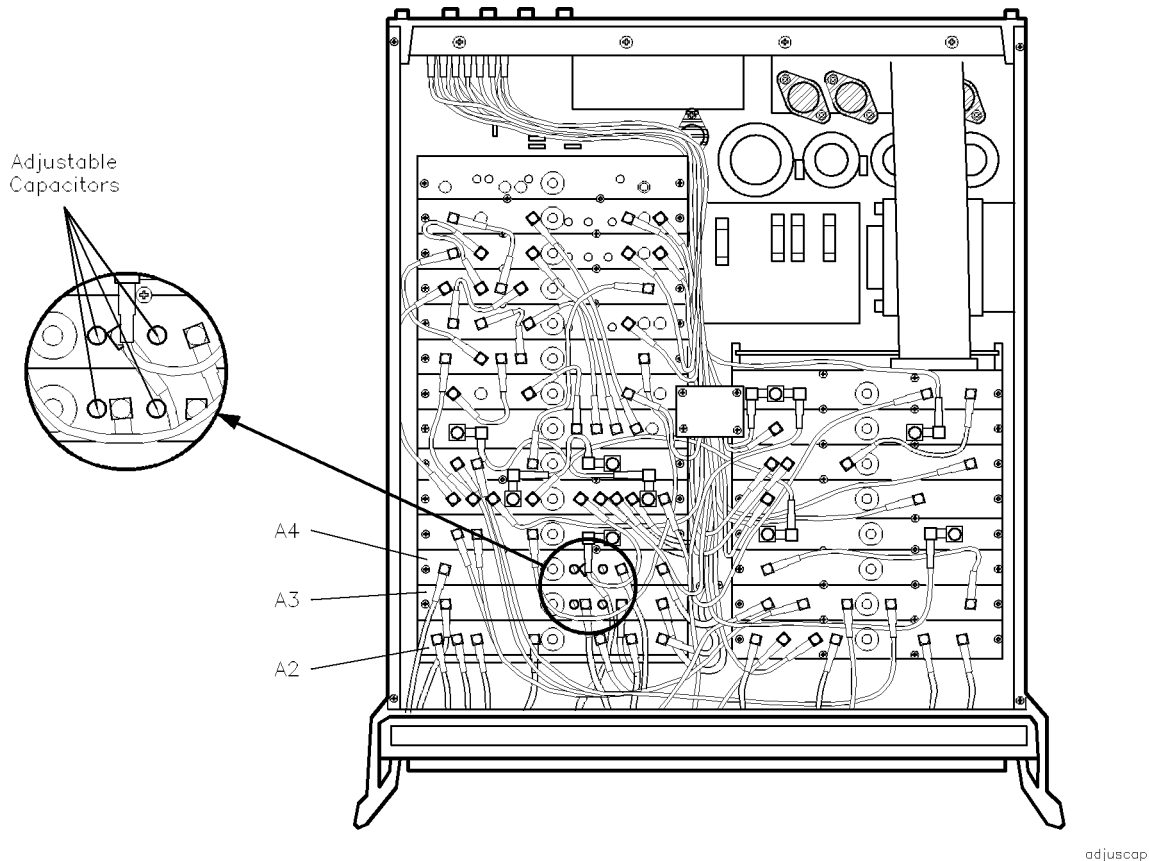
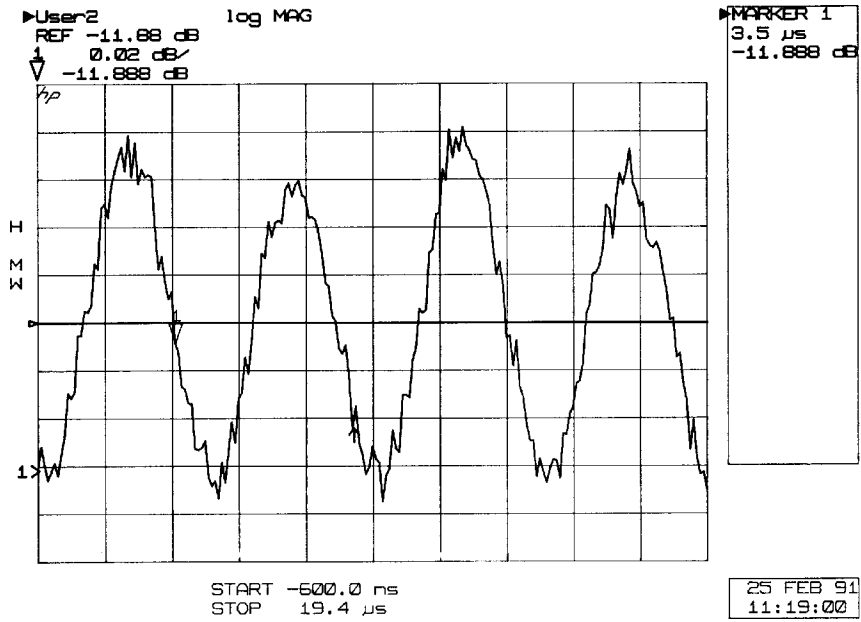
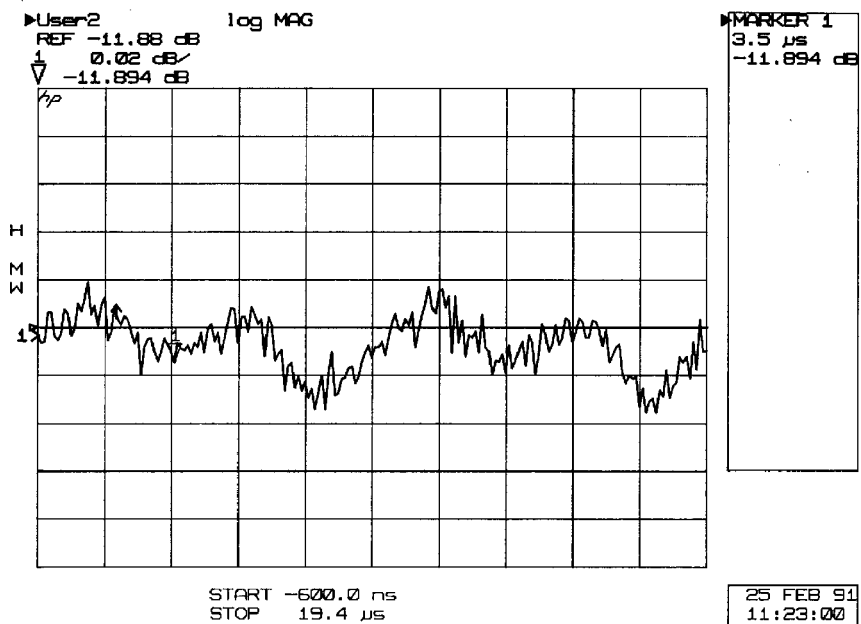

Figure 5-2. A2 IF MUX Board Connections
Figure 5-3. Misadjusted Pulse Detector Display Trace
Figure 5-4. Adjusted Pulse Detector Display Trace
1. For racked systems, remove the rack mounting screws from the front of the HP 85102. Slide the instrument forward slightly to give you access to the A2, A3, and A4 boards (refer to Figure 5-2).
7. Adjust the two variable ceramic capacitors, located on the A3 Pulse Detector board near J2 and J3, for minimum ripple (refer to Figure 5-2). Press **RESET IF CORRECTION** at the end of each sweep while adjusting these capacitors. The ripple should be <0.06 dB peak-to-peak after **RESET IF CORRECTION**. See Figure 5-3 and Figure 5-4 for typical network analyzer display traces.
8. Move the test cable to J5 on the A2 IF MUX board (refer to Figure 5-2) and replace the original cable on J3. Repeat this procedure from step 6 substituting **USER 3 a2** for **USER 2 b2**. Adjust the capacitors on the A4 Pulse Detector board instead of the board. The ripple should be <0.06 dB peak-to-peak after **RESET IF CORRECTION**.